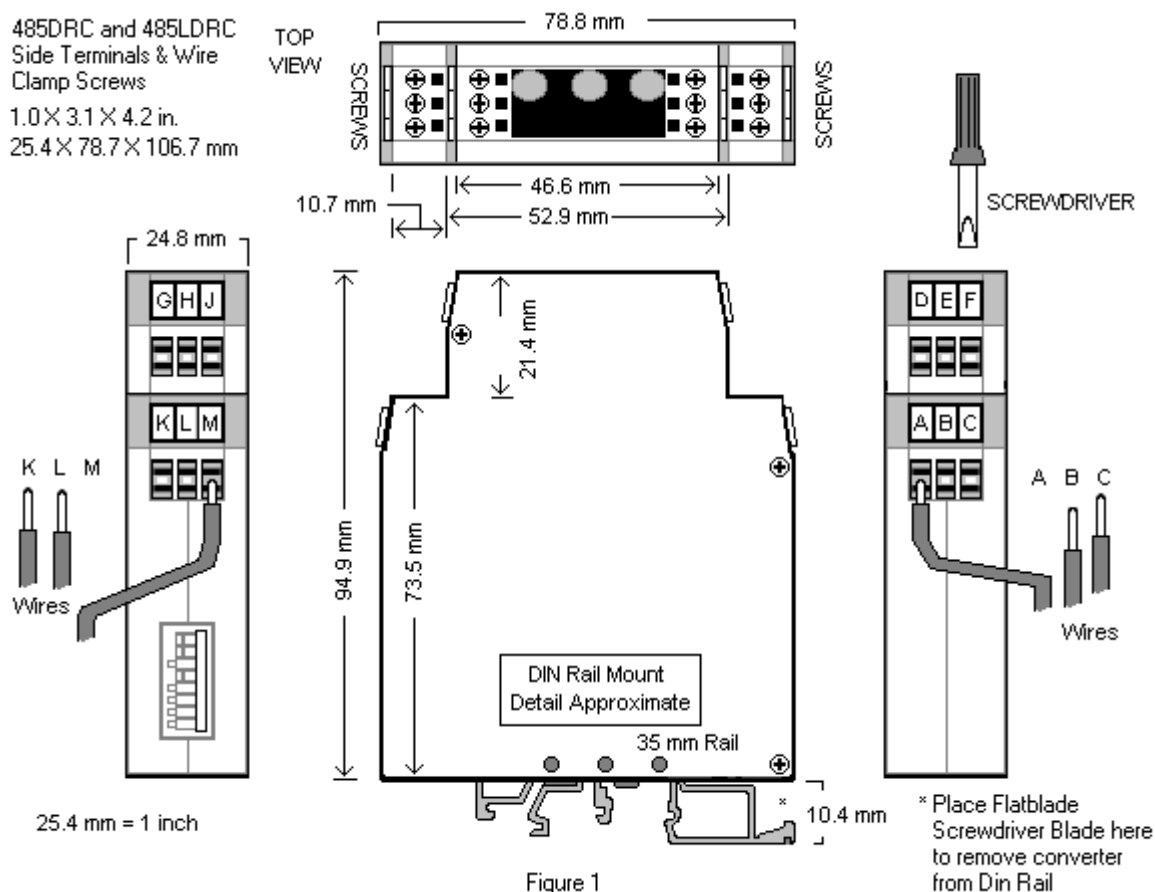

Figure 1
1. Place a flat blade screwdriver blade in disengage clip on the converter enclosure (See Figure 1).